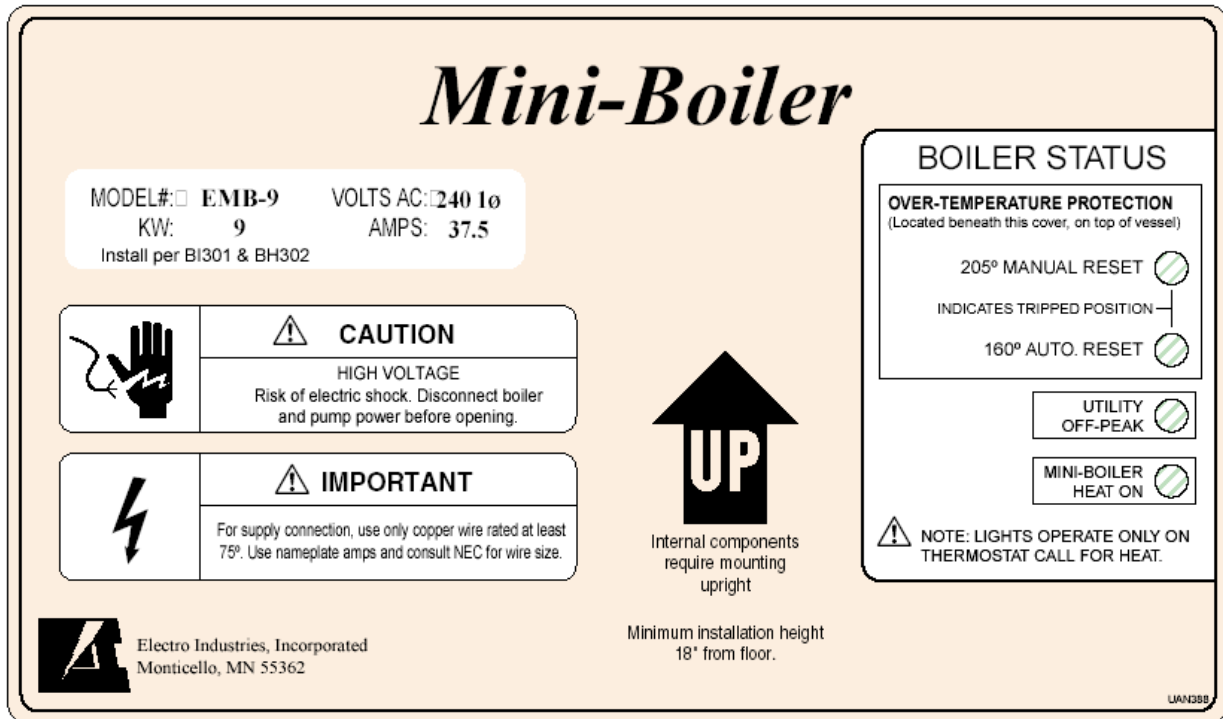

Figure 1
1. Indicator lights – there is a set of four indicator lights on the lower right corner of the front cover with an identical set of four indicator lights on the internal circuit board itself. Figure 1 is a reproduction of the front decal giving definition and information for using these indicator lights. Note the statement that there must be a call for heat before attempting to interpret the indicator lights.